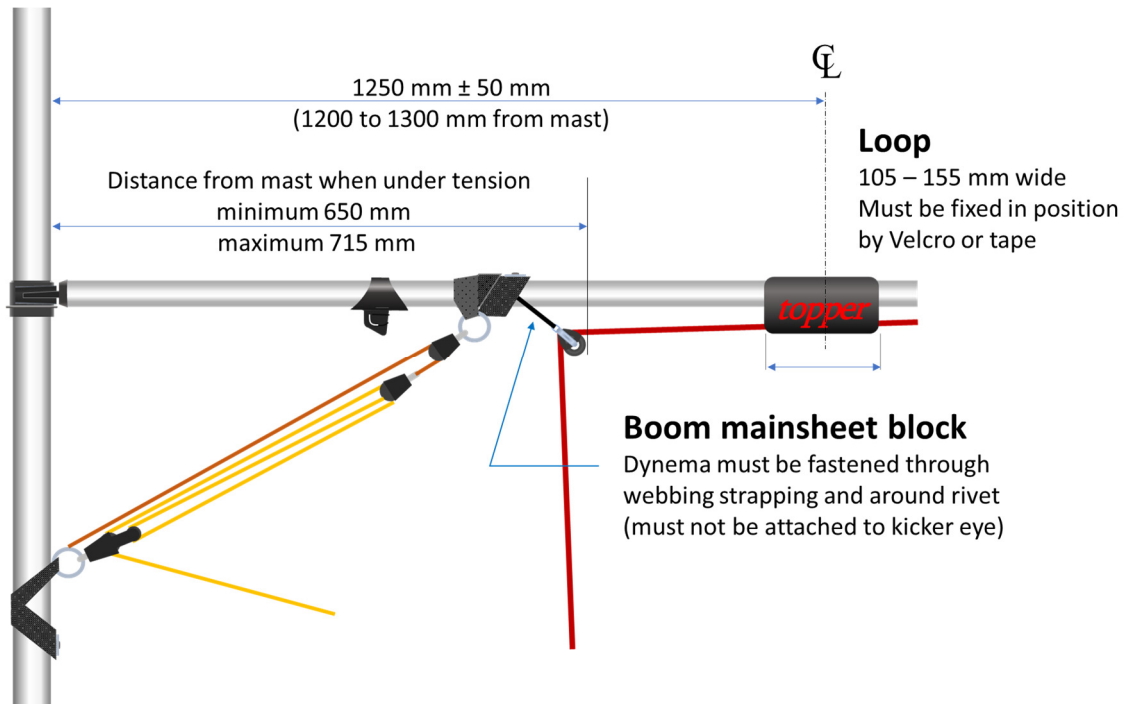

Figure 2 Boom measurements
**Figure 2). Boats with a metal boom strop shall use a webbing strap with Velcro fastening passed through the metal webbing strop to attach the mainsheet block so that under tension the furthest part of the block is between 650mm and 715mm from the mast. For all boats, the boom shall be fitted with a mainsheet**
d) Figure 2). The loop shall be held in place by Velcro or tape.